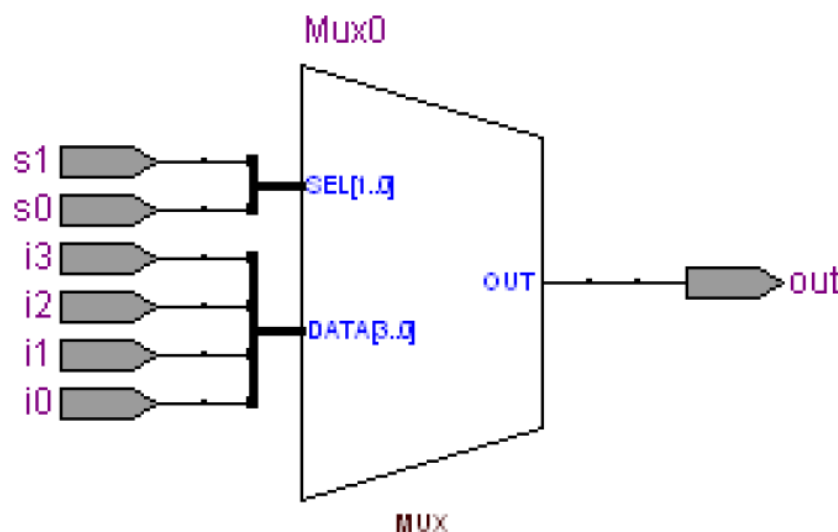

Figure 3.2: RTL Viewer output for mux_ver (Mux0).
8. View the synthesized schematic via **Tools** → **Netlist Viewer** → **RTL Viewer**, shown in Figure 3.2.